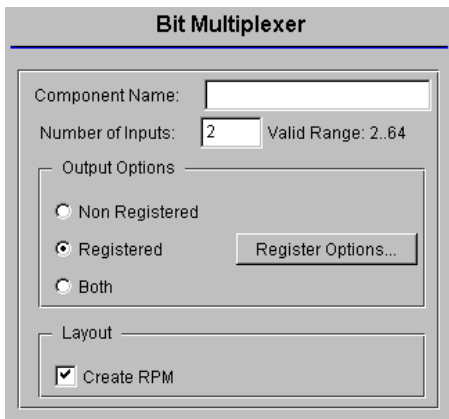

Figure 1: Main Bit Multiplexer Parameterization Screen
The main CORE Generator parameterization screen for this module is shown in Figure 1. The parameters are as follows:
- **Register Options:** This button is only enabled when a registered output has been requested via the Output Options. Clicking on this button brings up the Register Options parameterization screen (see figure 1).